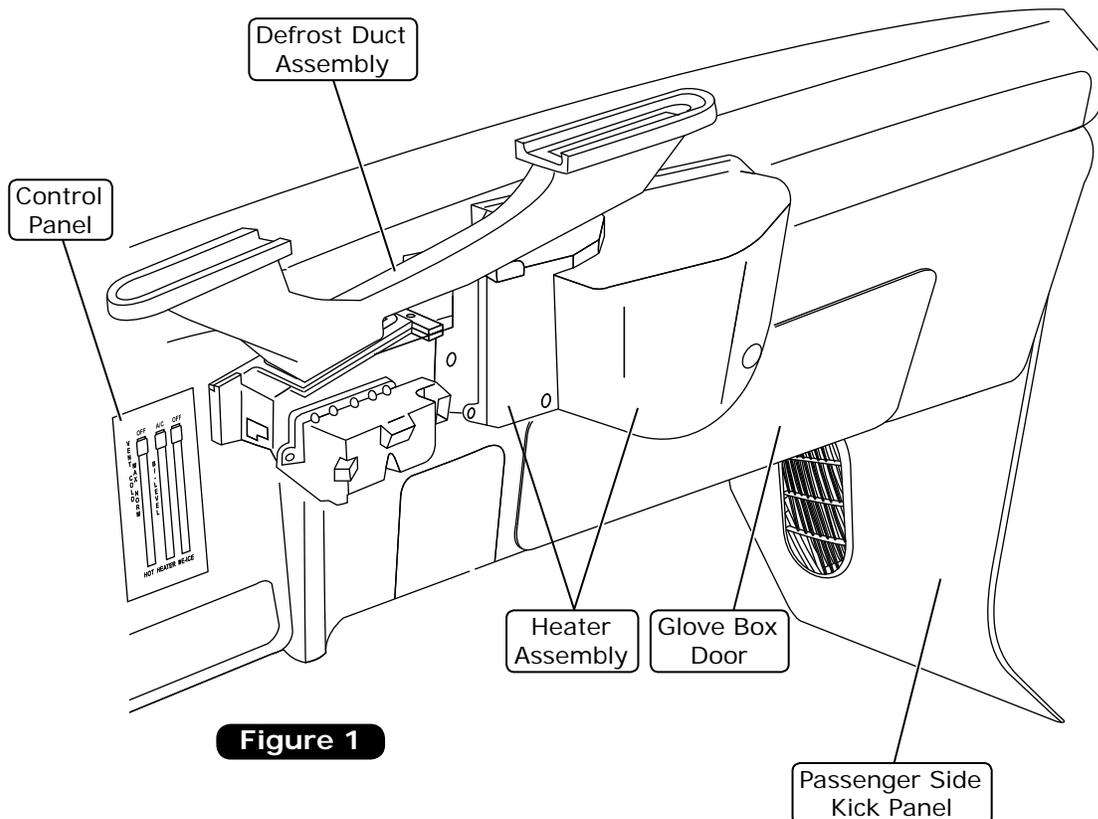

Figure 1
3. Remove the OEM heater assembly (See Figure 1, below).